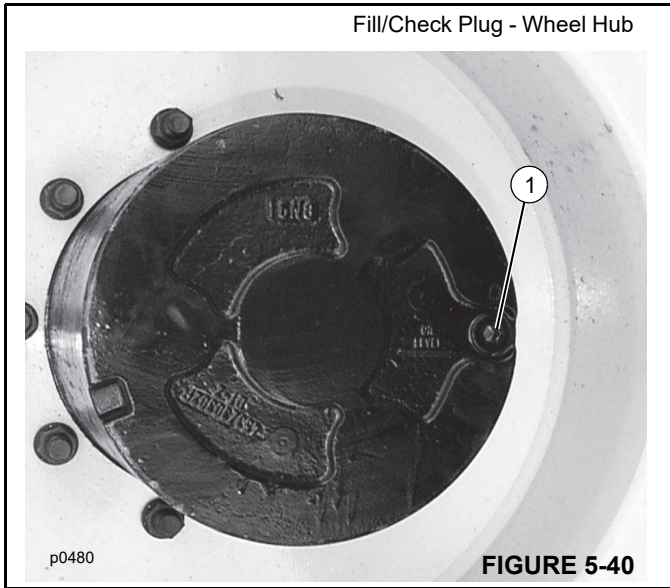

FIGURE 5-40
1. Position the fill/check plug so it is horizontal with the ground, at the 3 o'clock position (1, Figure 5-40).